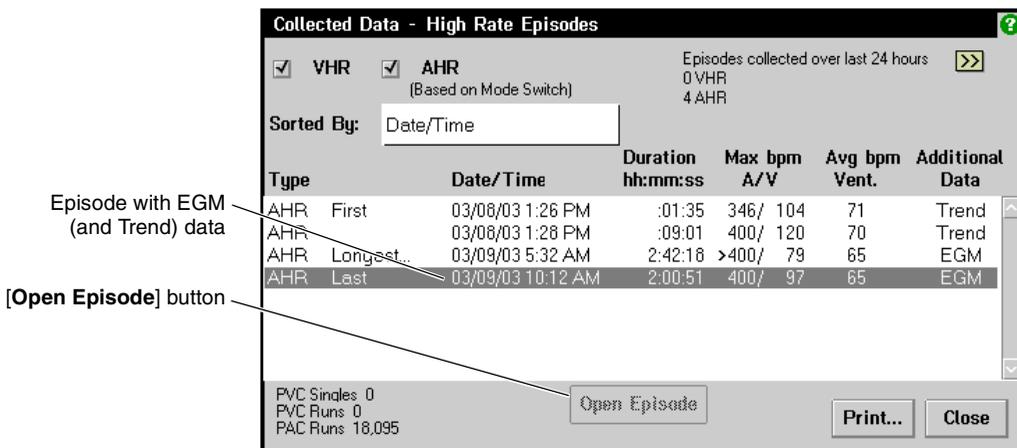
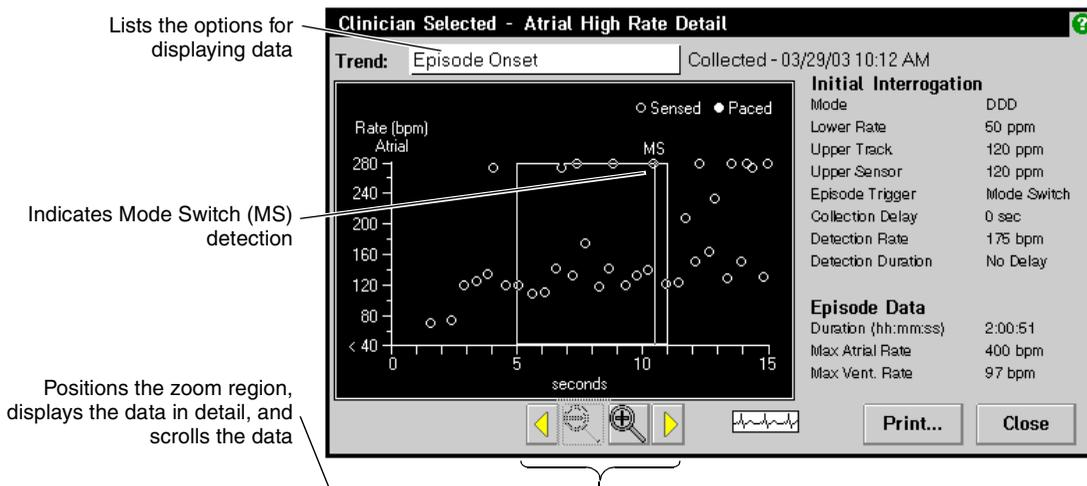

Figure 5-28. High Rate Episode screen
Figure 5-29. High Rate Detail episode
1. Access the High Rate Episodes screen (Figure 5-28) from the Quick Look II screen or the Graphs and Tables screen.
3. Select the **[Open Episode]** button. Figure 5-29 shows a High Rate Episode Detail screen for the selected episode in Figure 5-28.
4. Select the Zoom In icon or the Strip icon from the Episode Onset screen to display episode onset data. Figure 5-30 shows the EGM data collected for the High Rate Episode in Figure 5-29.